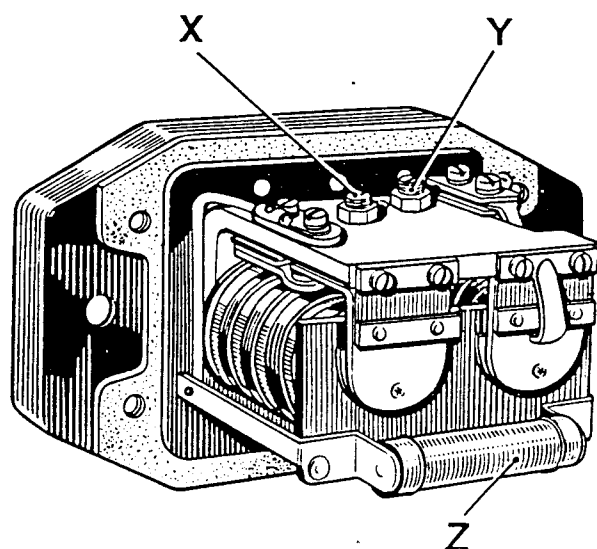

FIG. 20
**Note :** Three types of resistance are fitted to the control box (Fig. 20)
Reconnect the control box, and release the locknut (X) Fig. 20 holding the regulator adjustment screw. Turn the screw in a clockwise direction to raise the setting or in an anti-clockwise direction to lower the setting. Turn the screw a fraction of a turn at a time and then tighten the locknut.